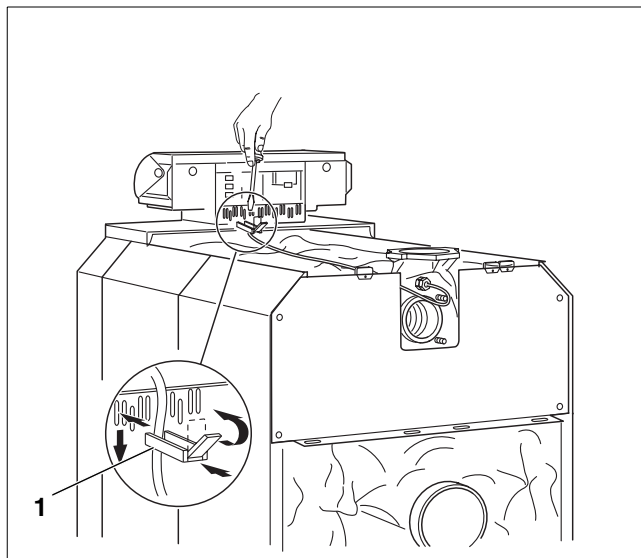

Fig. 62 Fastening electrical connecting cables in place
- Insert cable clips, with cables attached, into the clip frame and secure them in position by turning the lever to the upright position (Fig. 62, **ref. 1**).